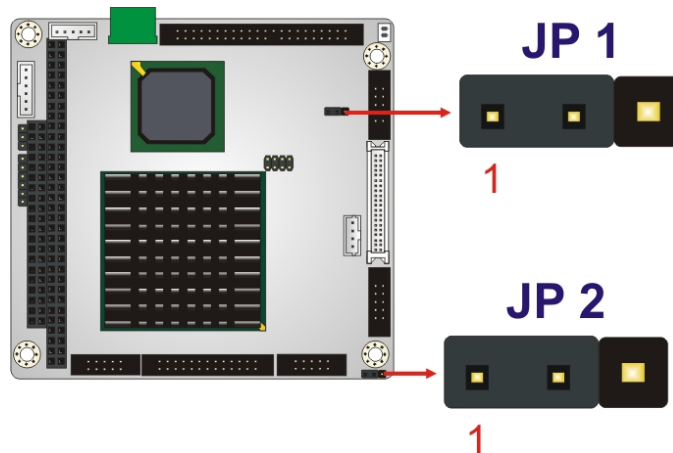

Figure 4-3: Jumper Locations
The PM-LX2-800 CPU board has two onboard jumpers (**Figure 4-3**).
- Jumper Location: See Figure 4-3